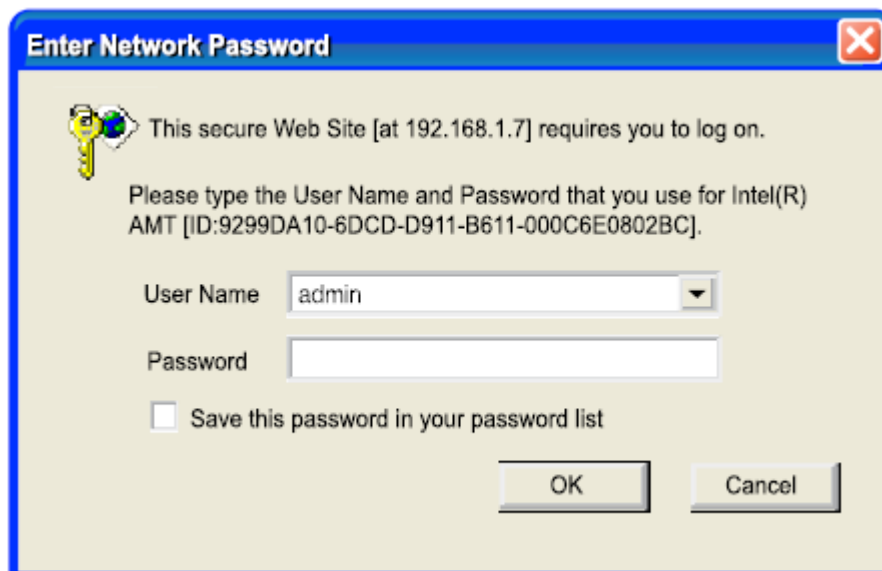

Figure 6-12: Intel® AMT Web Login Dialog
Step 5: A login window prompts (Figure 6-12).
Step 6: Enter admin as the user name (Figure 6-12).